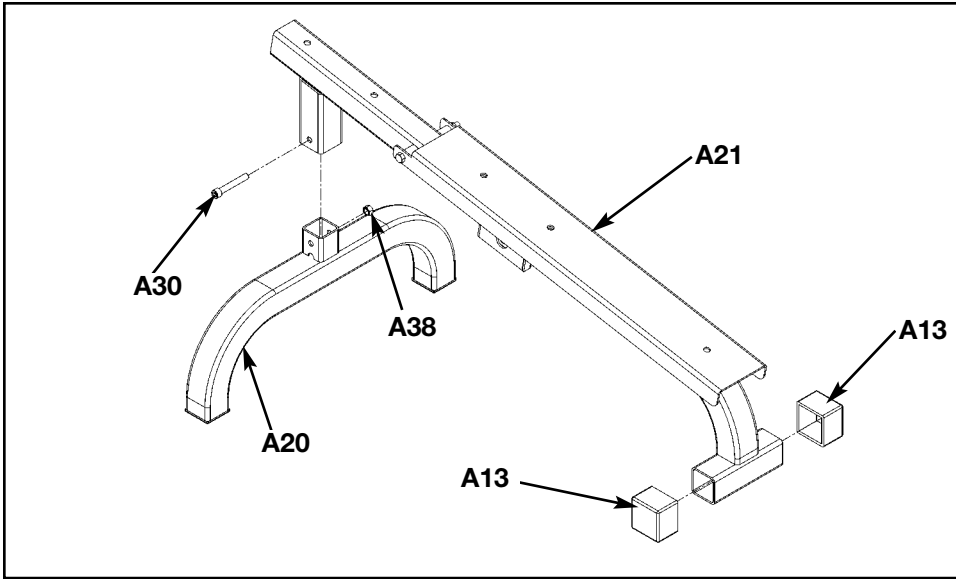

Figure 6
**3. Assemble the Pressing Station Bench** (see steps 3A - 3N, Figures 6 - 8).
- B.** Attach leg (#A20) to bench (#A21) using one SHCS .375-16 x 2.50 (#A30) and one nylon locknut (#A38). See Figure 6.
- C.** Attach two rubber caps (#A13) to bench frame (#A21) using a rubber mallet. See Figure 6.